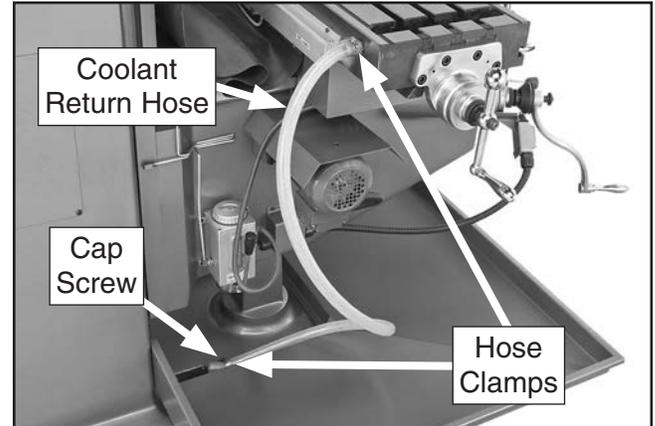

Figure 14. Coolant return hose attached to table.
8. Attach one end of coolant return hose to table connector with the pre-installed hose clamp, as shown in **Figure 14**.
10. Loosen hose clamp cap screw on base (see **Figure 14**), slide other end of coolant return hose underneath it, then re-tighten cap screw.